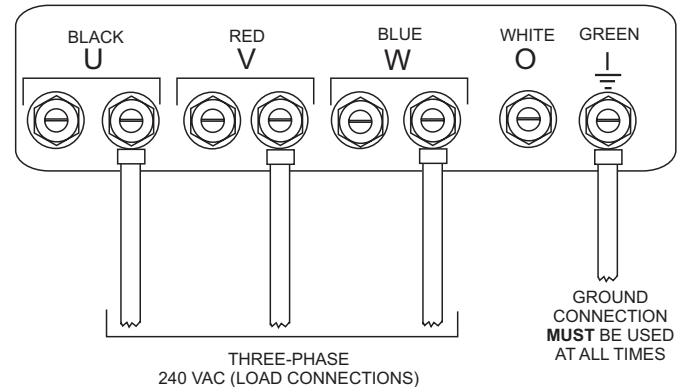

Figure 15. UVWO Terminal Lugs
2. Connect the load wires to the UVWO terminals as shown in Figure 15.